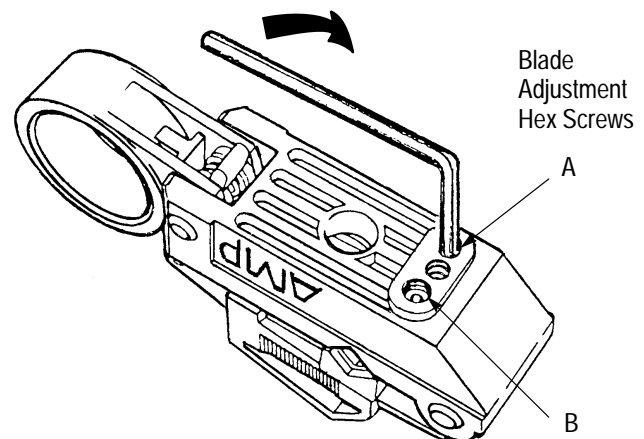

Figure 21
1. Rotate the blade adjustment screws (A or B) clockwise until they touch the gauge; see Figure 21.